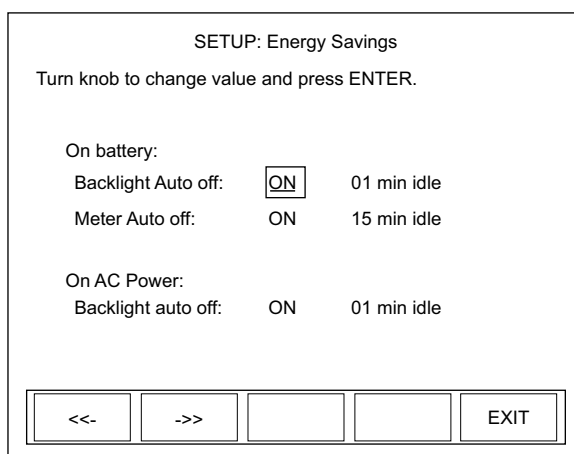

Figure 4-58. SETUP: Energy Savings (Changing the Values)
2. Press the ENTER/SET button to Display the SETUP: Energy Savings screen (Figure 4-58).
Selecting ON as a value on the SETUP: Energy Savings screen will display an editable field next to that value (as shown in Figure 4-58). Continue to step 4.